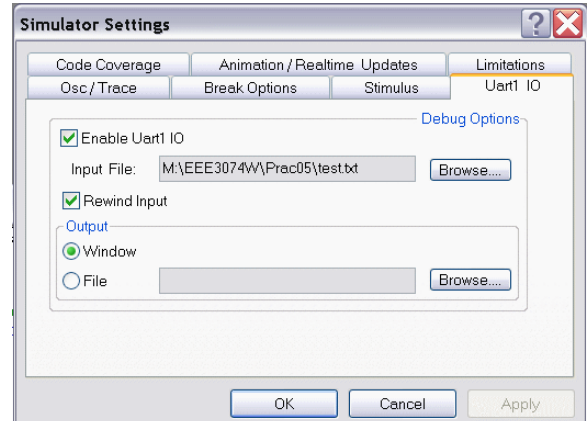

Figure 7: Debugger settings for MPLAB Sim.
7. You need to change the debugger settings to get your program to run. Select Debugger → Settings. Select the tab UART1 IO, and set an input file and set output to appear on a window. See Figure 7. Click OK to save the changes.